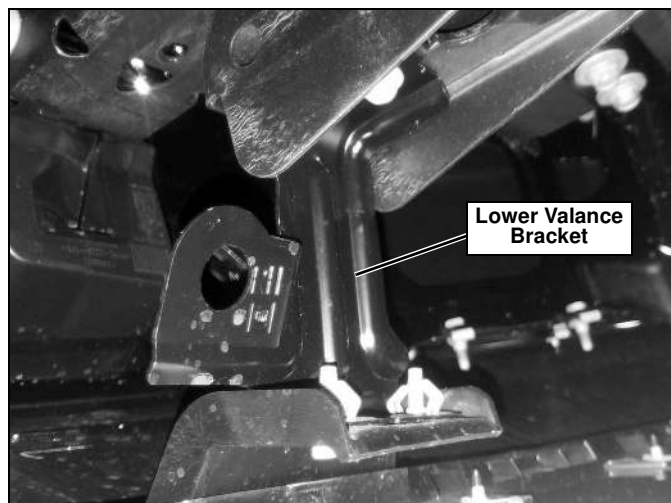

Figure 1
2. Remove the Lower Valance Brackets and retain with hardware for use if vehicle mount kit is ever removed. (See Figure 1.)